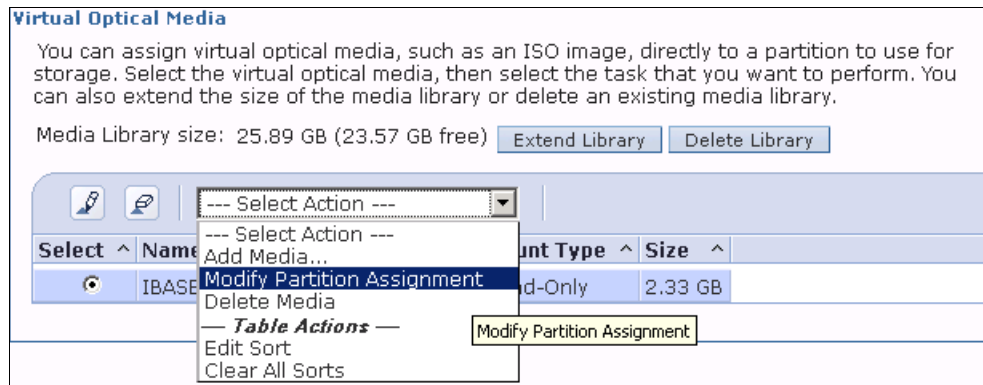

Figure 3-29 Assigning the virtual optical media
7. Select the image file and assign it to the virtual optical device, as shown in Figure 3-29.